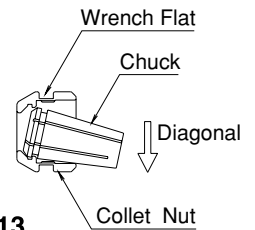

Fig.13
- ③ The new collet is installed in the chuck nut by positioning the collet in the chuck nut and pressing down on a flat surface. (Fig.13)